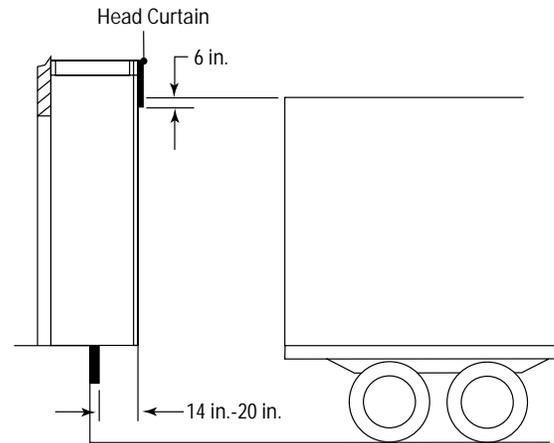

Fig. 58
- Set the bottom edge of the head curtain 6" below the height of the lowest truck to be serviced (Fig. 58).
- Design shelters to project 14" to 20" in front of the dock bumpers (Fig. 58). For shelters wider than 12'0", increase the shelter projection by 6" over the minimum recommendation.